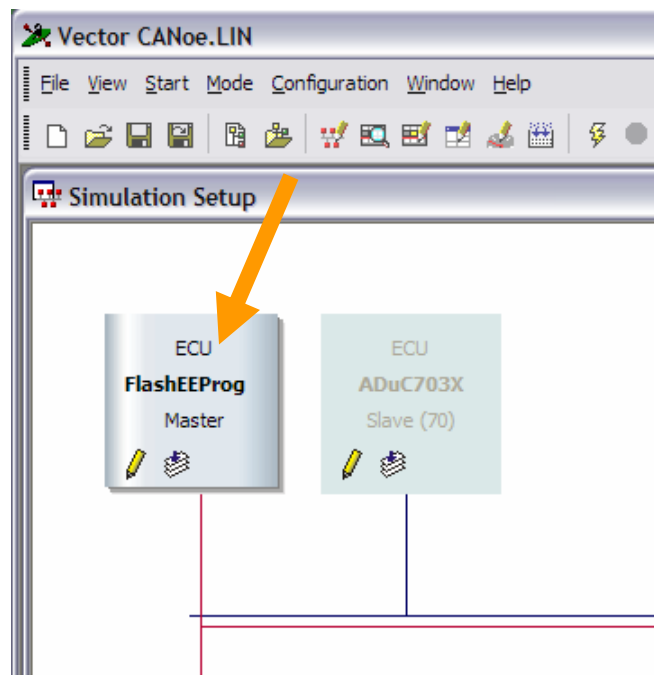

Figure 4 - Opening the LIN Master CAPL program block
- Left-click the pencil icon on the '*FlashEEProgrammer*' node in the '*Simulation Setup*' window of CANoe.LIN as shown in figure 4.